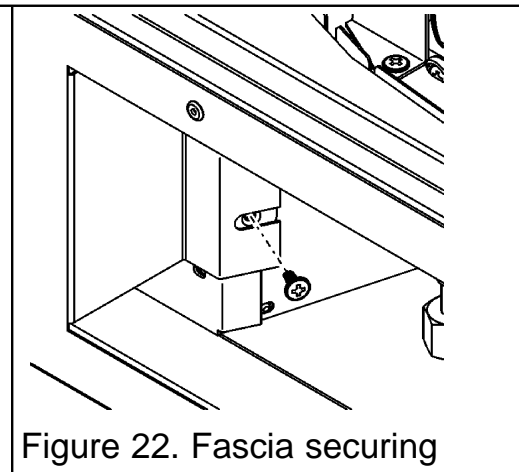

Figure 22. Fascia securing
4. Secure the bottom of the fascia using the two M4 x 10 screws supplied (See figure 22).